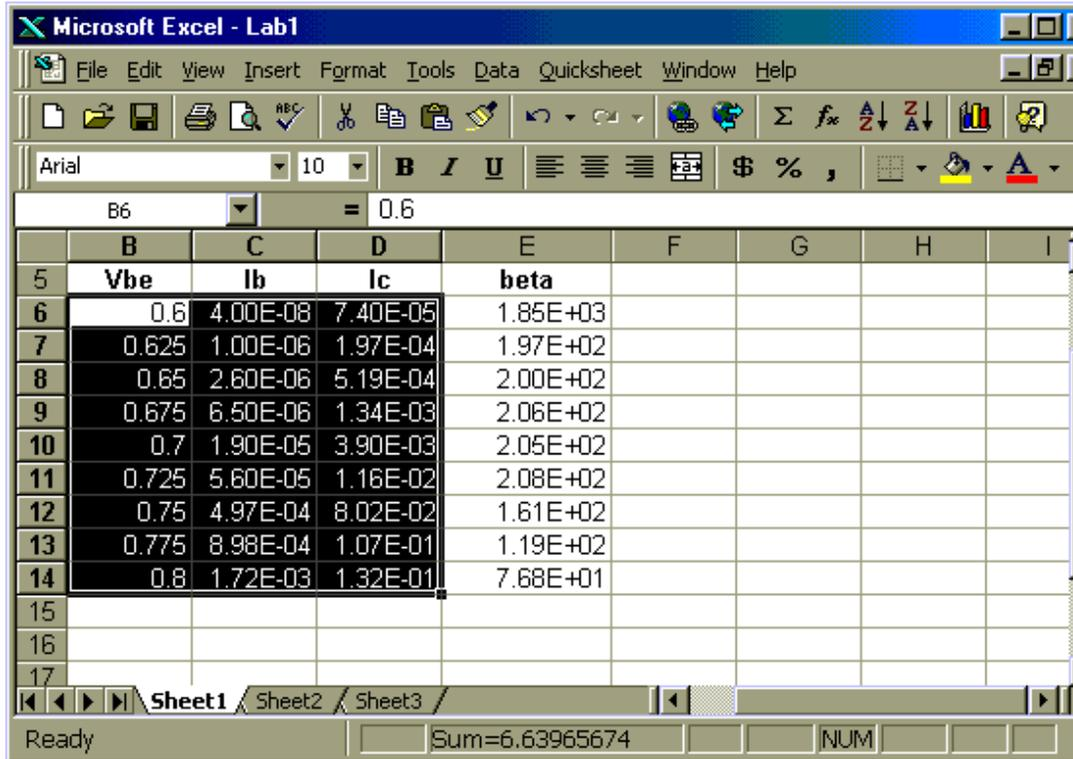

Figure 2
1. Select the data to be plotted as shown in Figure 2.
2. Click on the chart icon, shown on the EXCEL sheet in Figure 2.